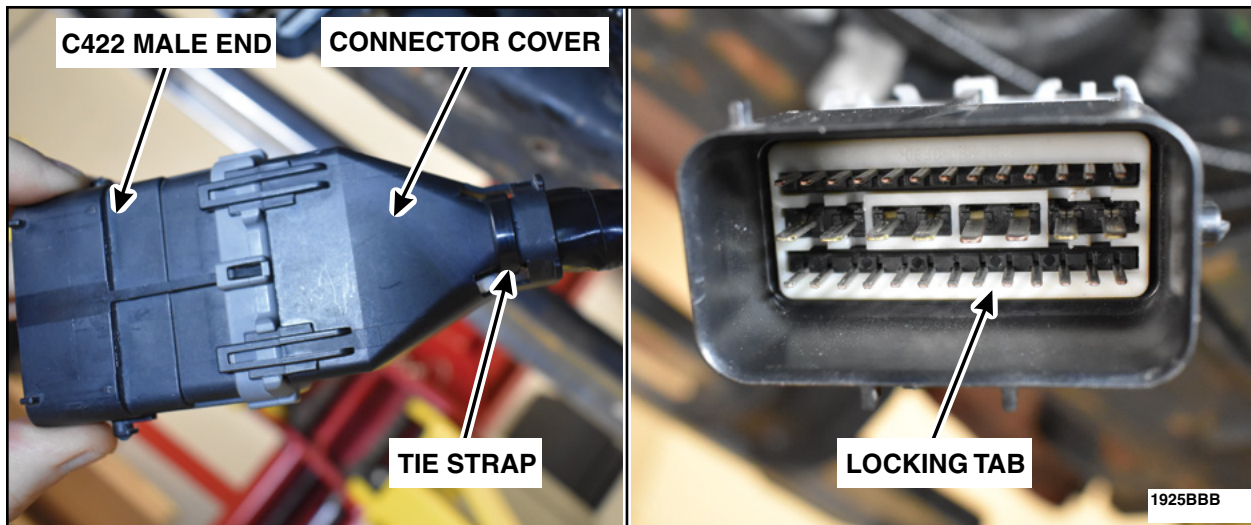

FIGURE 50
52. Install the C422 cover, *new* tie strap and the white locking tab on the male end of C422. See Figure 50.